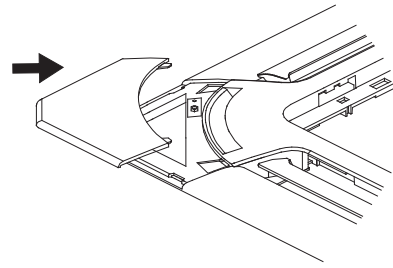

Fig. 10.6
6. Fasten the installation covers on all four corners by pushing them inwards. (See Fig. 10.6)